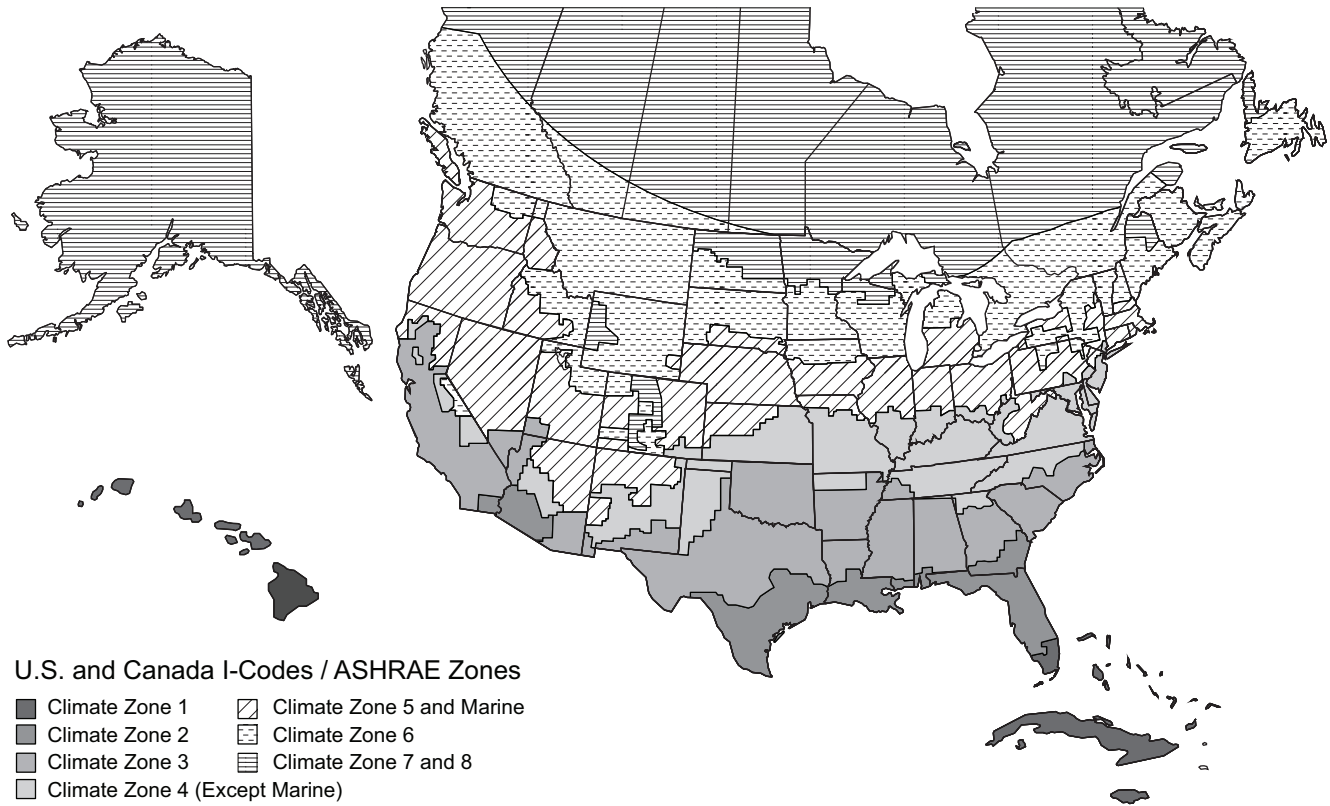

Fig. 65 — U.S. and Canada Climate Zones
- a. See Fig. 65 for map of U.S. and Canada climate zones.